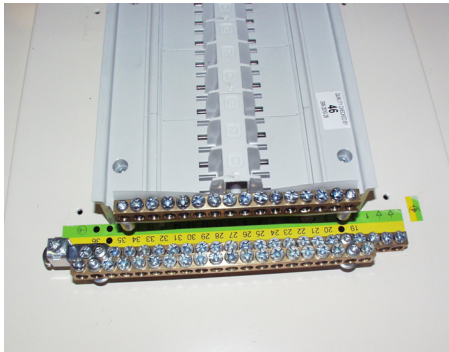

Fig 37
- Ensure the plastic shield supplied with the kit is fitted underneath the earth bar and formed up the side as shown. Position the required clean earth bar over the securing holes (fig 37) and insert the 2 no. self tapping screws provided through the rear of the pan assembly and fully tighten. Torque 1.5Nm.